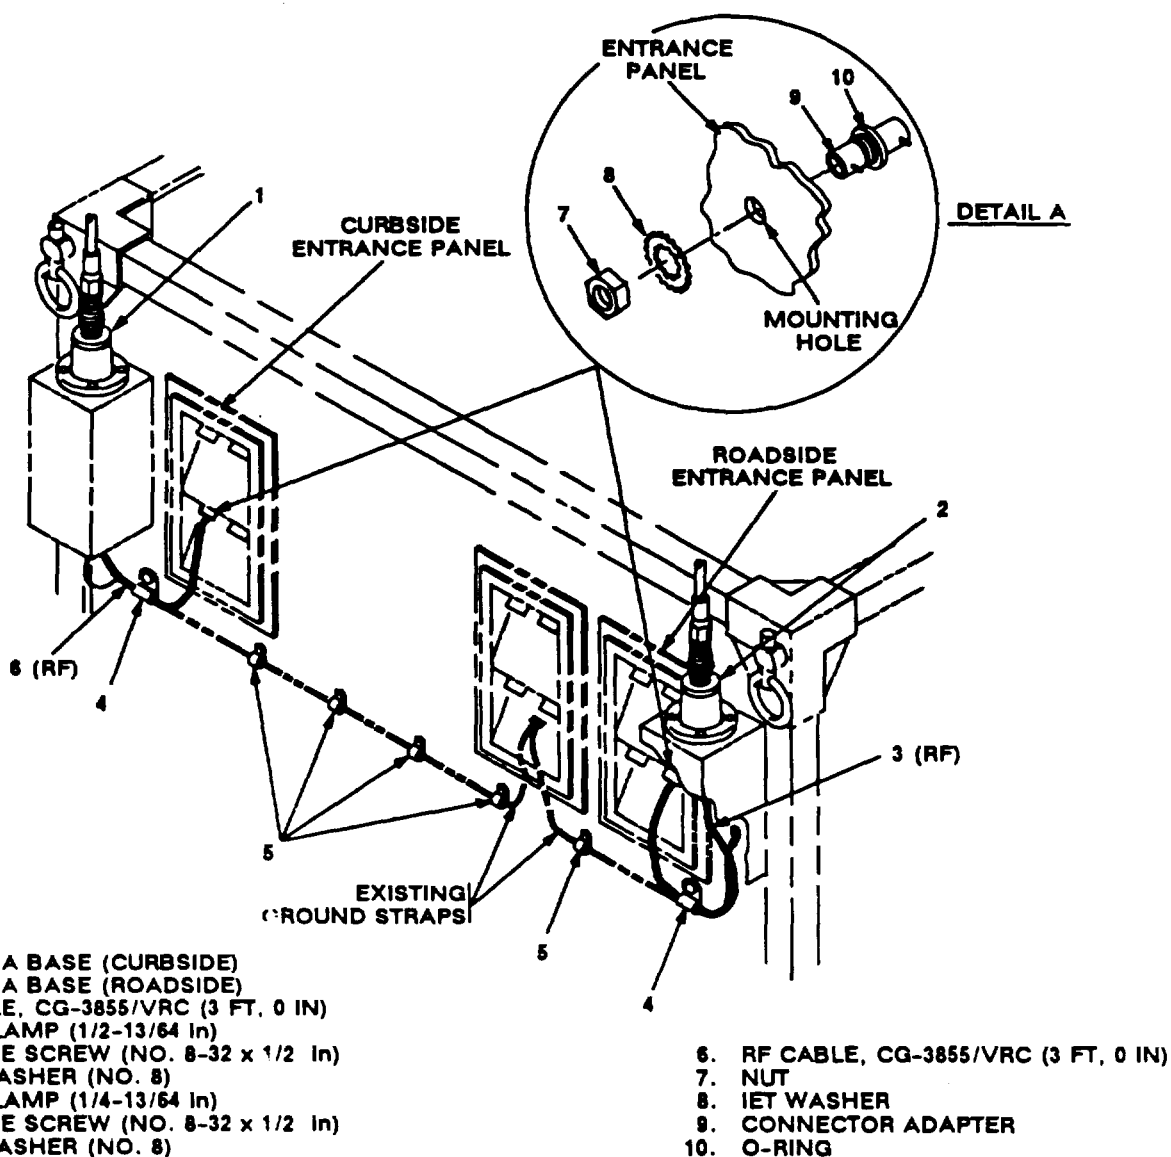

Figure 5-5 (1). Cable Installation: Exterior Cabling
| a. | Two O-rings (10). | Apply a thin coat of silicone compound to both sides; then place one on each connector adapter (9). See figure 5-5 (1), detail A. |